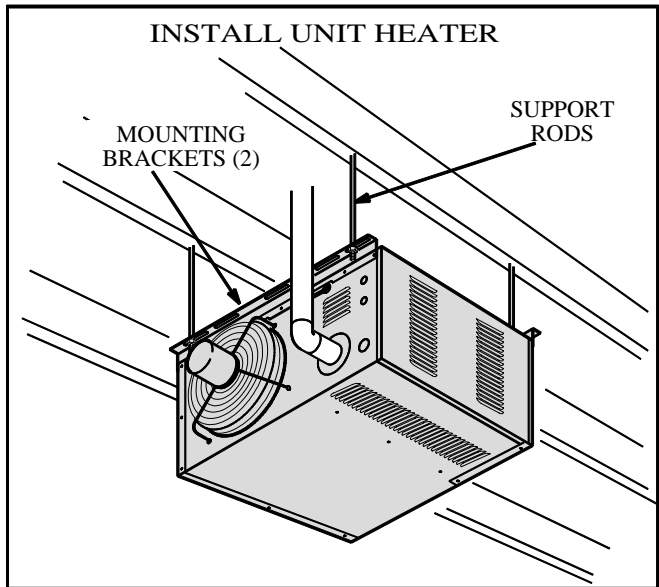

FIGURE 1
Unit is shipped ready for installation. Unit may be installed as shown in figure 1 or inverted 180° depending on desired location as governed by clearances, vent connection, air direction, gas supply, electrical supply and service accessibility.
- 5- To support unit, secure mounting bracket to ceiling joist or truss. Unit may also hang on rods as shown in figure 1.